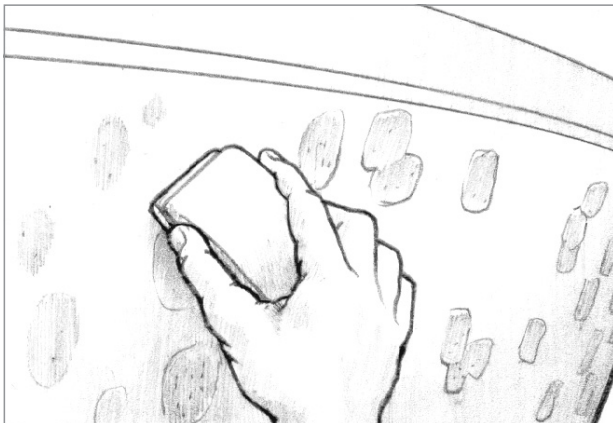

Figure 4-8 Sand the surface fair after the epoxy/filler has cured thoroughly.
7. Sand the surface fair following the procedures outlined in Section 6.4.2 (*Figure 4-8*). Check for fairness. Reapply fairing compound as needed, repeating the procedure until the surface is fair and smooth.